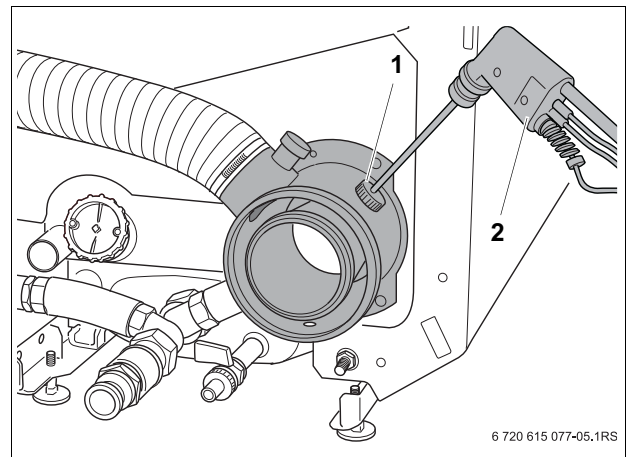

Fig. 16 Recording measured values
- Insert the testing probe (Fig. 16, **Item 1**) so as to reach into the center of the gas flow (center of the flue pipe – highest flue gas temperature).